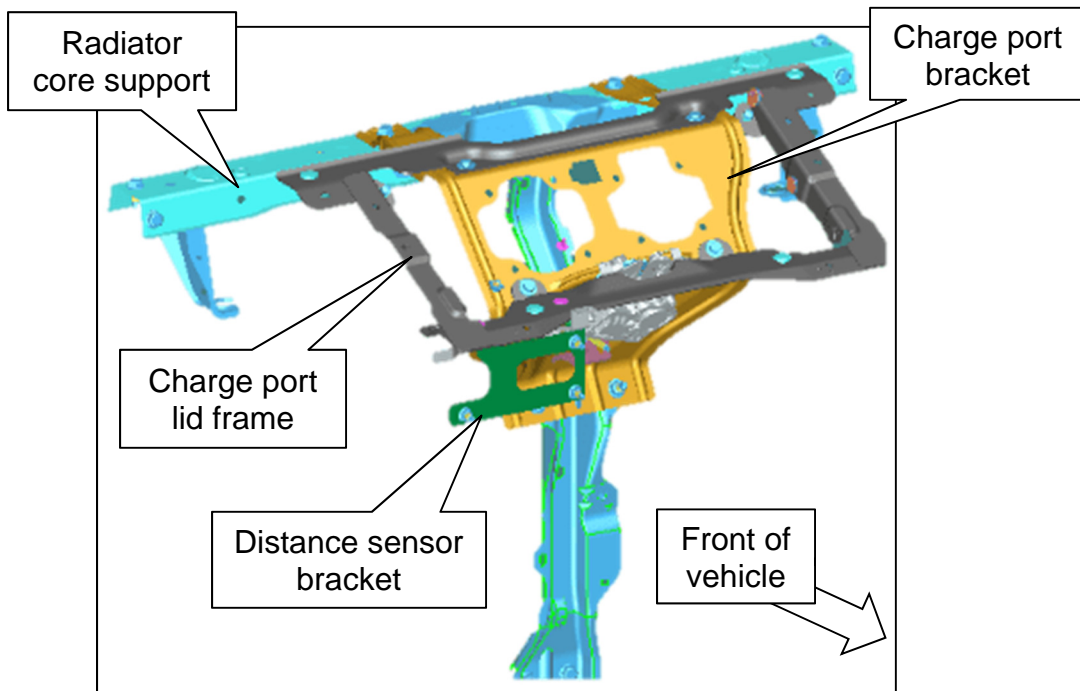

Figure 2
- Do not bend the charge port lid frame to adjust (Figure 2).
- Do not bend any of the components attached to the charge port bracket (Figure 2).
- Always perform an ICC Sensor Alignment (Radar Alignment Procedure) whenever any of the components called out in Figure 2 are removed or replaced.
IMPORTANT: Do not bend any of the components called out in Figure 2. If components do not align, one or more associated components may already be bent and must be replaced.